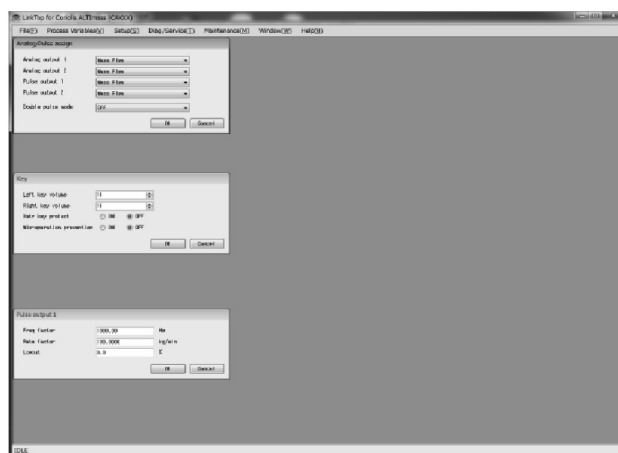

Fig.171
- ② Select "Tile Horizontal" to display these windows lined up vertically, as shown in Fig. 171.